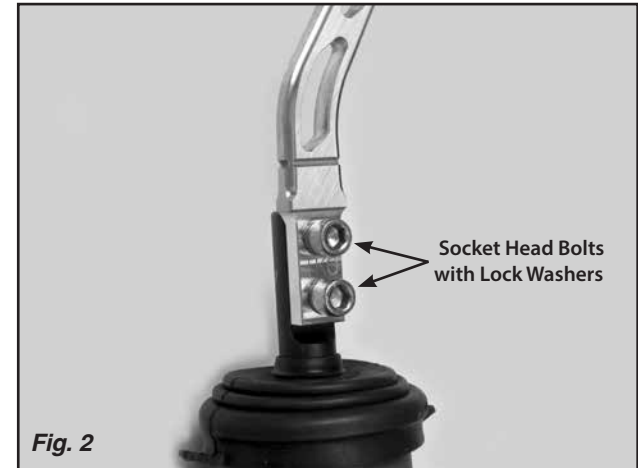

Fig. 2
- Step 3:** Install the new Lokar Shifter Lever onto the transmission's shifter mechanism, using the provided socket head bolts and lock washers. **Fig. 2**